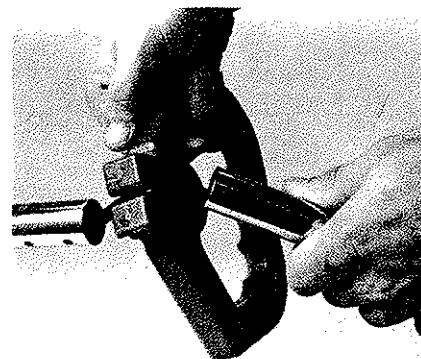

FIGURE 1
1. Insert wiring harness through the assist handle (figure 1) and slide it onto the upper handle tube. Insert bolt in assist handle and tighten with wing nut.